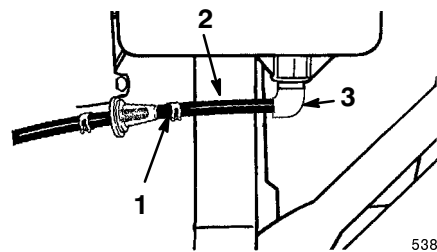

Figure 4
6. Remove the red cap from the end of the fuel line and from the end of the elbow fitting on the fuel tank (Fig. 4).
7. Slide the end of the fuel line onto the elbow fitting (Fig. 4).
8. Secure the fuel line in place with the fuel line clamp (Fig. 4).